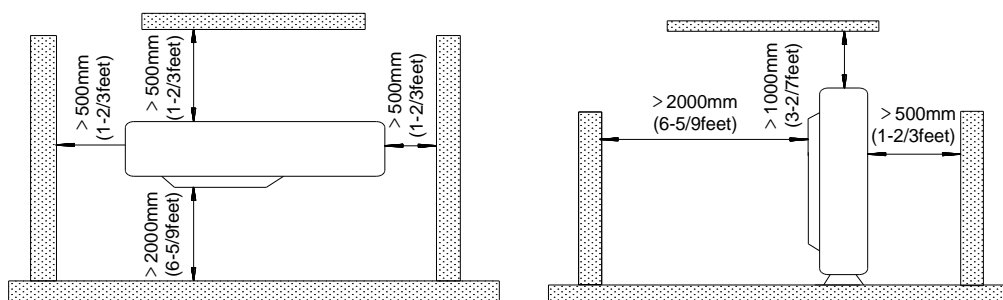

Figure 3-2-1
- (1) Install the outdoor unit in a place where it will be free from being dirty or getting wet by rain as much as possible.
- (2) Install the outdoor unit where it is convenient to connect with the indoor unit.
- (3) Install the outdoor unit where the condensate water can be drained out freely during heating operation.
- (4) Do not place animals and plants in the path of the warm air.
- (5) Take the air conditioner weight into account and select a place where noise and vibration are small.
- (6) Install the outdoor unit where is capable of withstanding the weight of the unit and generates as less noise and vibration as possible.
- (7) Provide the space shown in Figure 3-2-1, so that the air flow is not blocked. Also for efficient operation, leave three of four directions of peripheral constructions open.